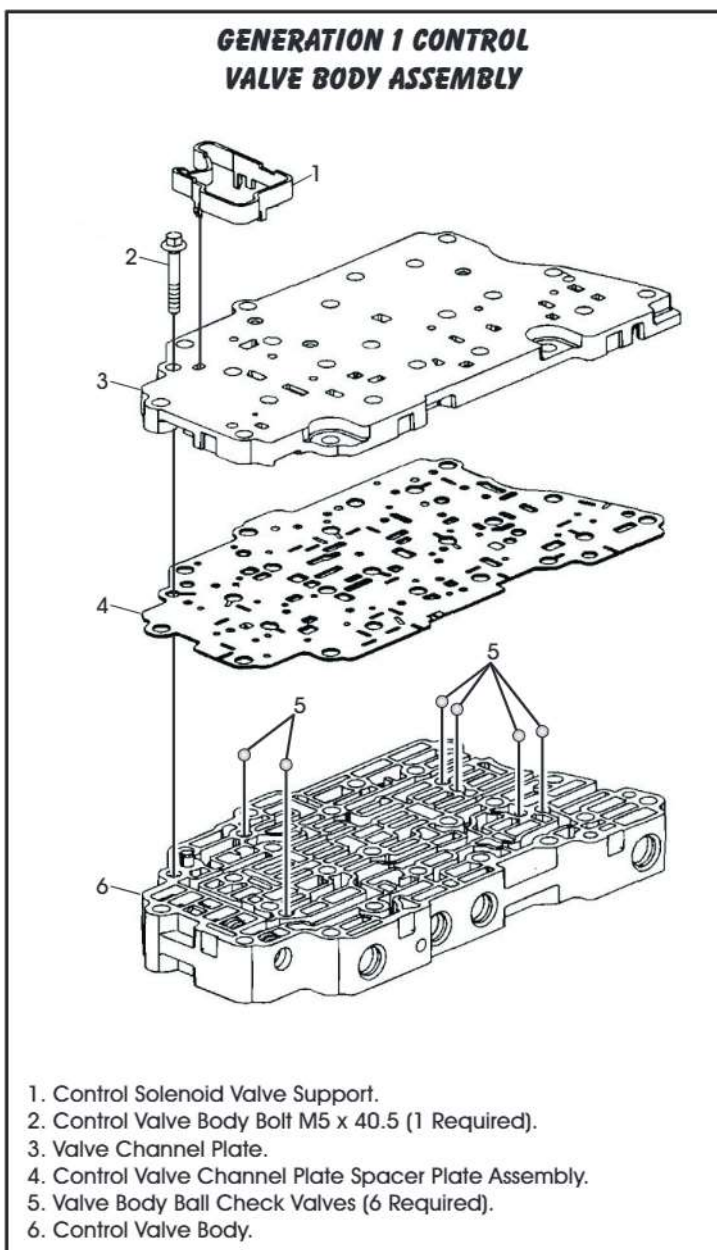

Figure 140
36. Place the assembled Generation 1 channel plate and spacer plate assembly onto the main control valve body assembly as seen in Figure 140.
37. Install the control solenoid valve support as seen in Figure 140.
38. Insert the control valve body bolt into the location shown in Figure 140 and hand tighten the bolt.